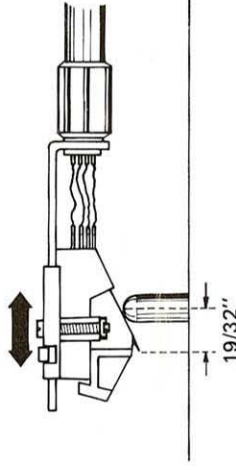

Fig. 6
5. Move the tone arm over the turntable shaft and move the cartridge back or forth to obtain a space of 19/32" (15 mm) between turntable shaft and stylus tip (Fig. 6). Fix the cartridge in this location by tightening the screws.